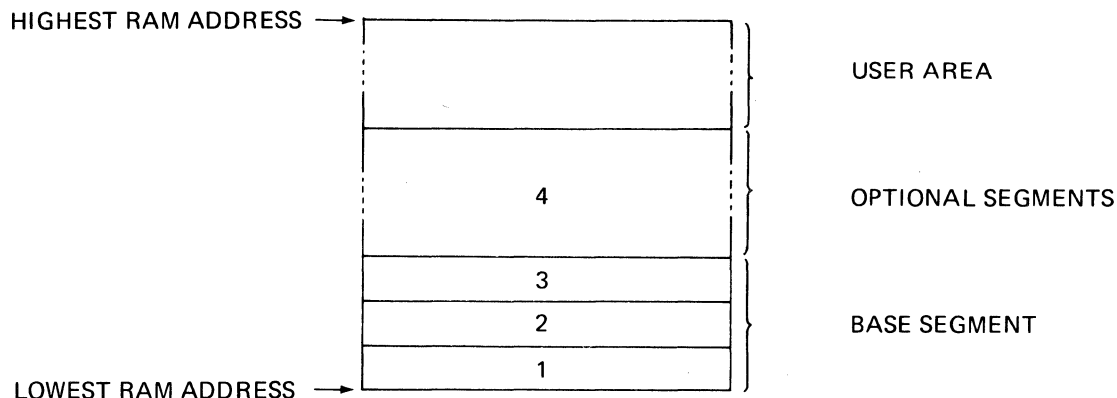

Figure 6-5. SL3/SL5 Memory Division
The interpreter consists of the micro-code required to implement the Virtual System. It also contains the System Registers, whose functions are described in Sections 7 and 8. The interpreter is wholly resident in memory and is divided as shown in figure 6-5.
The Base Segment consists of 3 parts: Interpreter Registers and Work Areas, Micro-coded routines and Basic S-language instruction routines. These correspond, respectively, with items 1, 2 and 3 on figure 6-5. Each part is discussed below in detail.